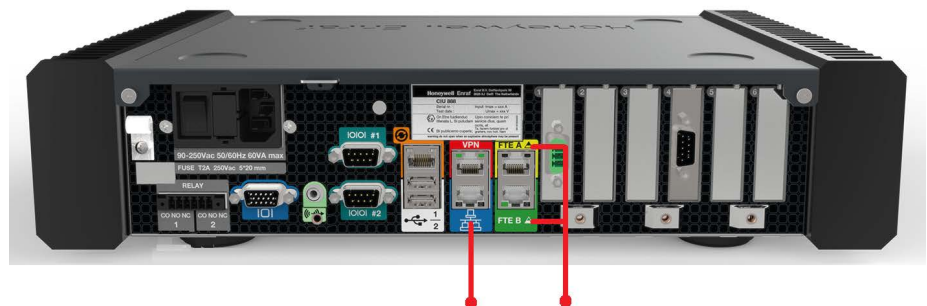

FIGURE 4-15
- PC/laptop running the Modbus TCP/IP Host and / or OPC UA TCP Host via one of the configured ethernet host ports using network cable (see FIGURE 4-15)